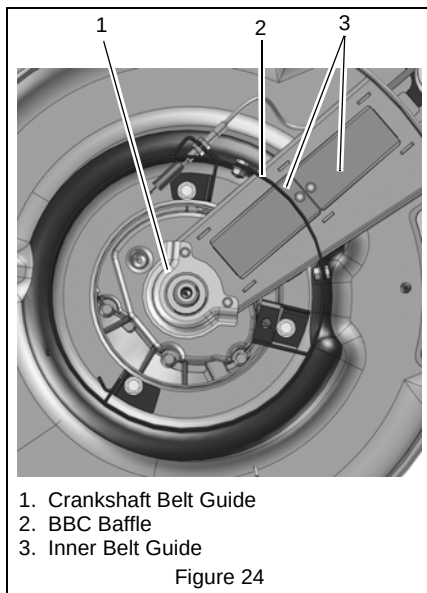

Figure 24
8. Remove two tapping screws retaining crankshaft belt guide and remove guide. See Figure 24.
9. Remove BBC baffle. See Figure 24.
10. Remove two tapping screws retaining inner belt guides and remove guides. See Figure 24.